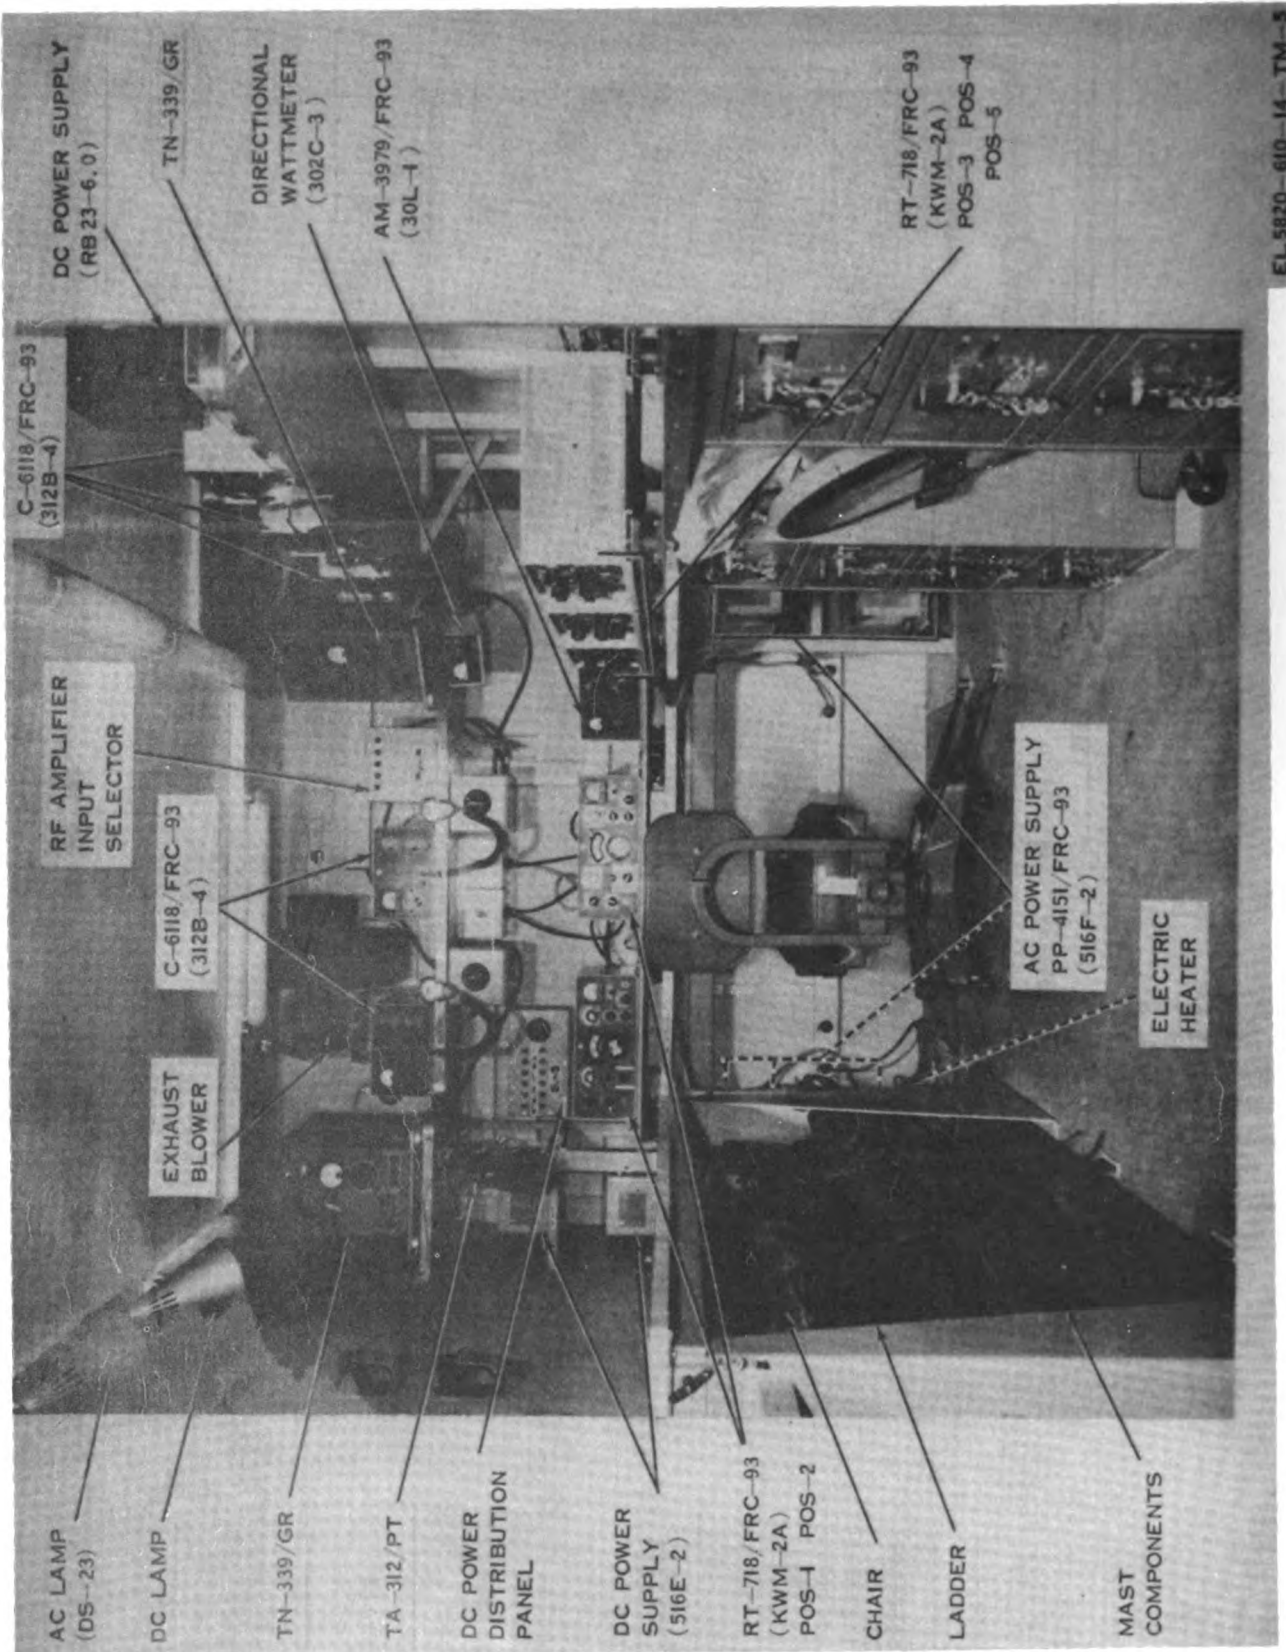
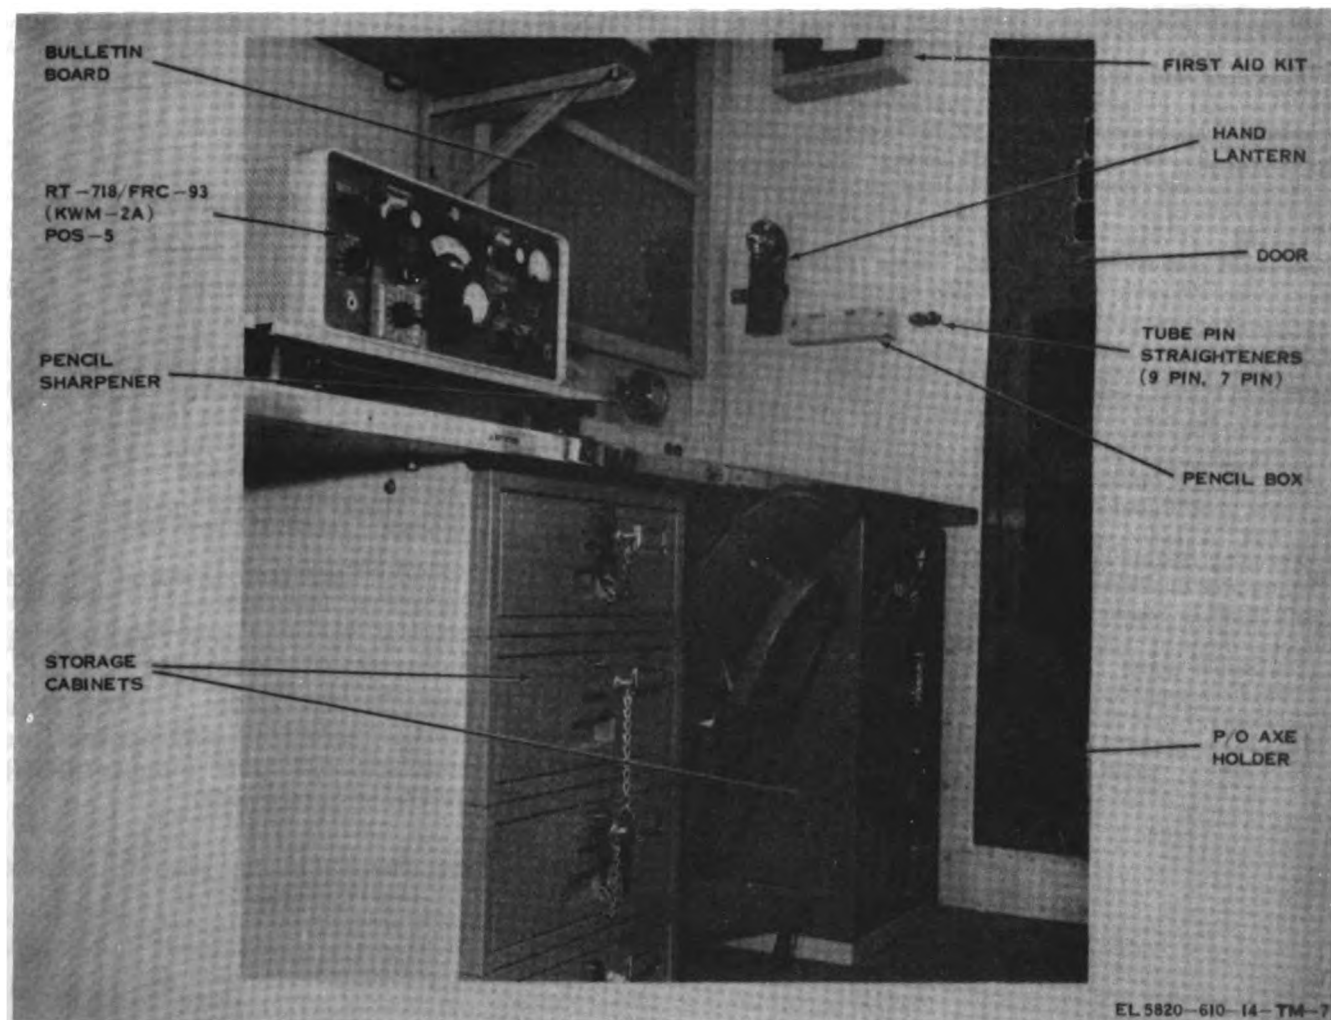

Figure 1-6. AN/TRC-139A eabeater interior, forward view.
Figure 1-14. AN/TRC-133A shelter interior, rear right side view.
(1) *Shelter.* The AN/TRC-133A shelter contains five radio positions, each using Receiver-Transmitter, Radio RT-718/FRC-93 (fig. 1-6) with Control, Radio Set C-6118/FRC-93, Power Supply PP-4151/FRC-93, Crystal Unit Set, Quartz CK-31/FRC-93, and Microphone, Dynamic M-127/FRC-93. Each of the five operating positions can be connected to separate doublet antennas provided as part of the radio terminal. Positions 1 and 2 can also be operated with separate 15-foot whip antennas, which are used when the radio terminal set is operated mobile. The five radio equipments are powered from a 115-volt, 60 Hertz (Hz), single
(c) A storage area for stowing the doublet antenna components is located on the roadside floor of the shelter interior (fig. 1-6).
(4) Shelter facilities and controls (fig. 1-6).
(e) An RF AMPLIFIER INPUT SELECTOR switchbox (fig. 1-6) controls selection of one of the five operating positions for operation with the AM-3979/RFC-93.
e. Ventilation and Lighting (fig. 1-6).
(1) A blower on the front wall draws in air through a filtered intake on the shelter door and exhausts the air out the front of the shelter. The blower is operated from ac primary power.
(2) A duct system, employing a blower, is provided for forced-air ventilation of the five operating positions in the shelter. A filter is used with the duct blower to clean the air before it is ducted into the transceivers. The airflow is directed to the bottom surface of the transceiver chassis at a rate of 50 to 75 cubic feet per minute.
(6) The dc lamp (fig. 1-6), located on the front roadside ceiling, is powered by the vehicle electrical system and furnishes light while in the mobile mode or for emergency use.
h. Equipment Arrangement and Mounting (fig. 1-6, 1-11).
(1) Transceivers are mounted on a shelf running across the front and along the curbside of the shelter. The associated station controls, mounted on a second shelf above the transceivers, provide convenience of operation at each position.
(2) Most radio equipment in the shelter is mounted on suitable shock and vibration isolators. The PP-4765/GRC-159(V)(516E-2), PP-4151/FRC-83 (516F-2), and C-6118/FRC-93 (312B-4) units are hard-mounted.
(3) Storage drawers (fig. 1-14) for cables, whip antenna masts, and other small items are located on the curbside wall of the shelter. A separate drawer is provided for storing the crystal unit packs.
b. Doublet Antennas. The components for nine masts (fig. 1-6) AB-155A/U, sufficient W-1 antennas wire, and the necessary associated hardware are furnished for the construction and erection of the half-wave doublet antennas. Three masts are required for support of each antenna at the lower operating frequencies, while only two masts are required at the higher operating frequencies. The rf signal cables provided permit siting of the doublet antennas at least 100 feet away from the shelter.